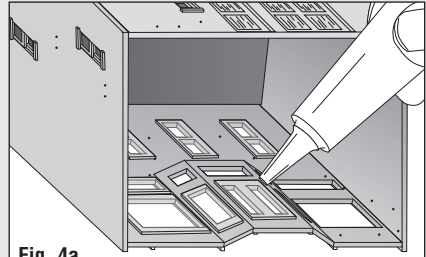

Fig. 4a
- Align Window Material over corresponding windows on inside of Building. Dab a small amount of glue carefully around edges (Fig. 4a).